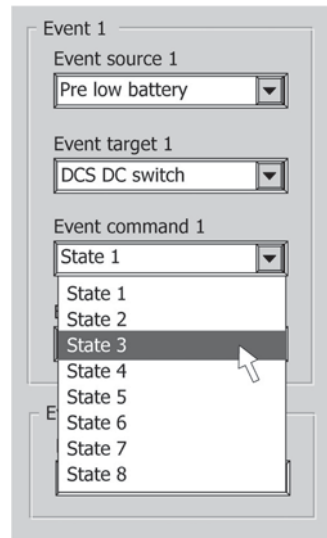

Figure 16
- 5 Next select which parameter must be changed at the target: *Event command*. (Example: The state of switch 3) (figure 16).